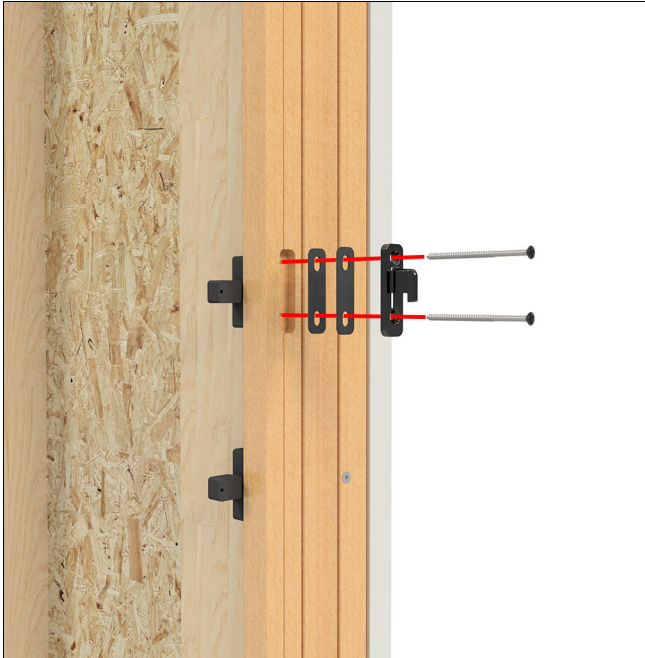

Figure 44
**3. Keeper Adjustment:** With the panel properly aligned, check to make sure it locks correctly. There are two plastic shims behind the keepers and panel guides that will allow some adjustment to move the hardware in and subsequently make the panel close tighter when locked. See Figure 44.